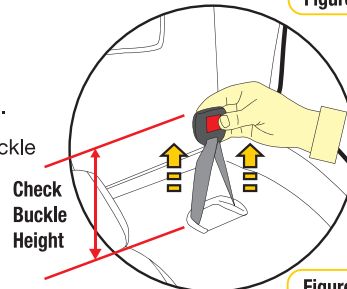

Figure 4
**Step 6:** Turn seat back to upright position & recheck buckle height (refer Figure 4).
**Step 4:** Push down on the base of the restraint (with knee or hand) whilst pulling the sash section of the vehicle belt firmly up in direction of the blue arrow in Figure 4. (This will tighten the lap belt across the restraint base).